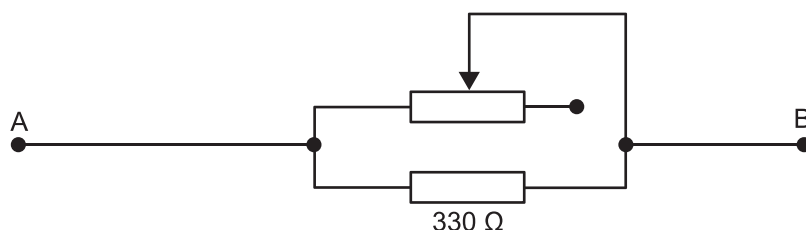
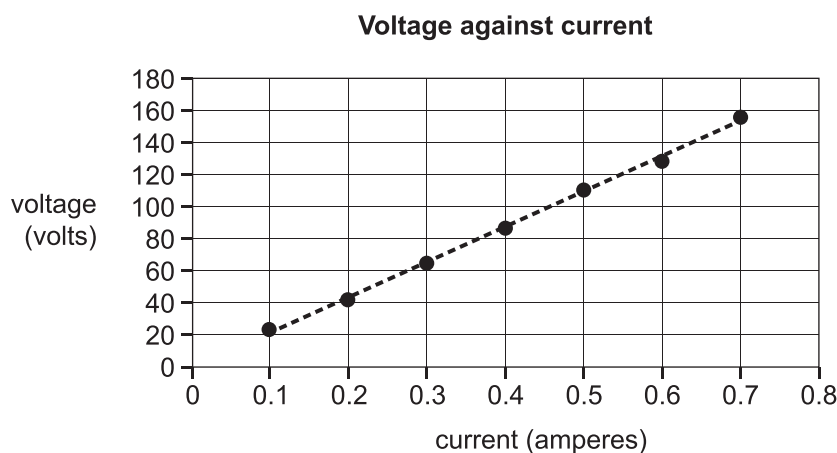

Figure 1
Figure 2
Figure 1 below illustrates a variable resistor (potentiometer) and a $330\ \Omega$ resistor, wired in parallel.
The graph in Figure 2 below was created after the parallel network shown in Figure 1 was tested for its voltage response to different current levels. During this testing the variable resistor (potentiometer) was not adjusted.
The relationship between the voltage (V) and current (I) was determined to be $V = 200 \times I$, based on the Figure 2 graph.